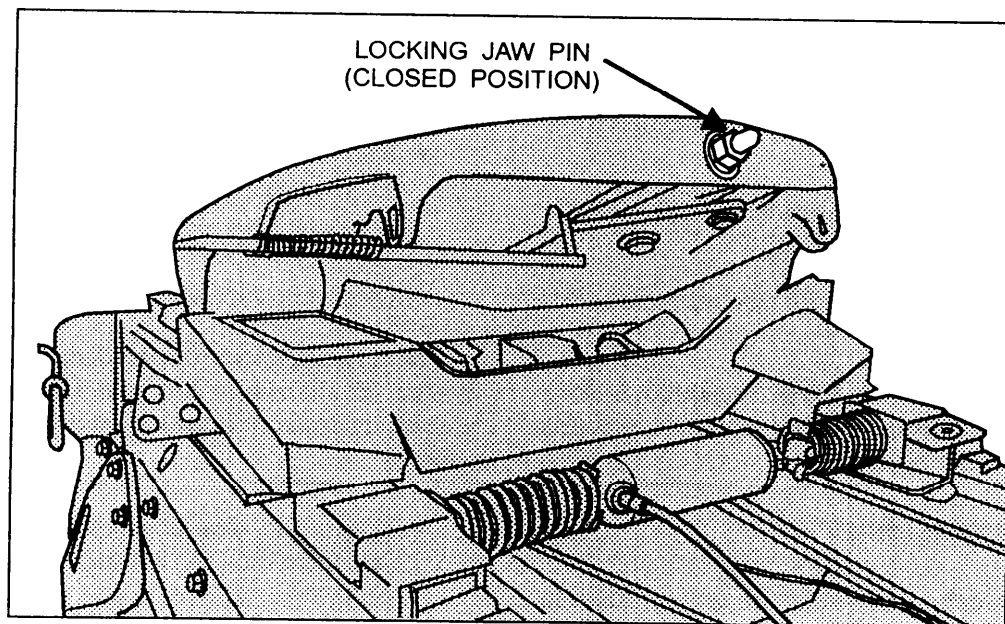

Figure 7-17.—Locked fifth wheel.
- Check that the locking lever pin is in the “lock” position (fig. 7-17).